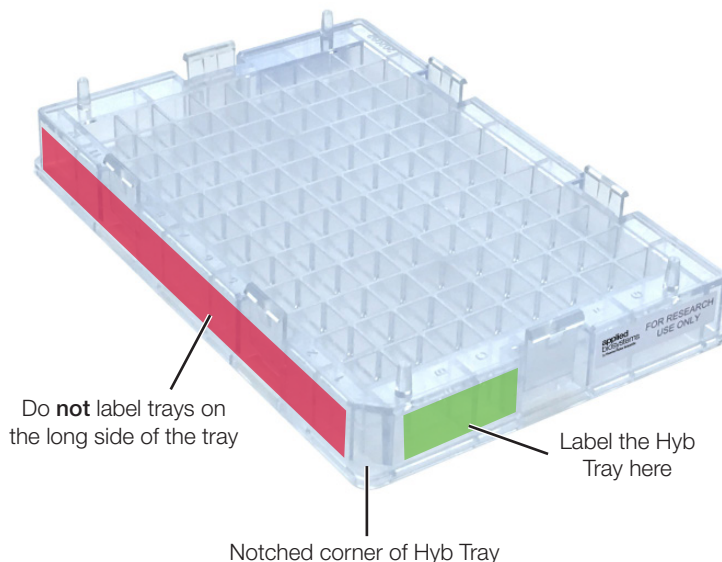

Figure 1. Labeling Hyb Tray
2. Label the hyb tray; please refer to Figure 1 and the IMPORTANT note below the figure.